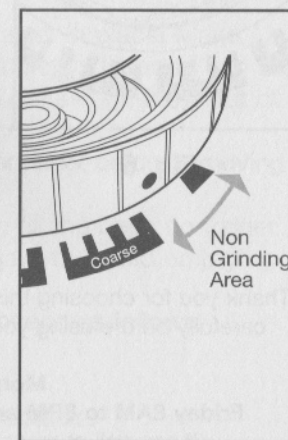

Fig. 3a
2. Between the insertion marking and the coarsest setting (Fig. 3a) the grinder will not grind.
- You can also interrupt grinding by turning the bean container to the right (counter clockwise) beyond the coarsest setting (Fig. 3a). This will stop the grinding action. The timer will still run until it stops in the 0-position.